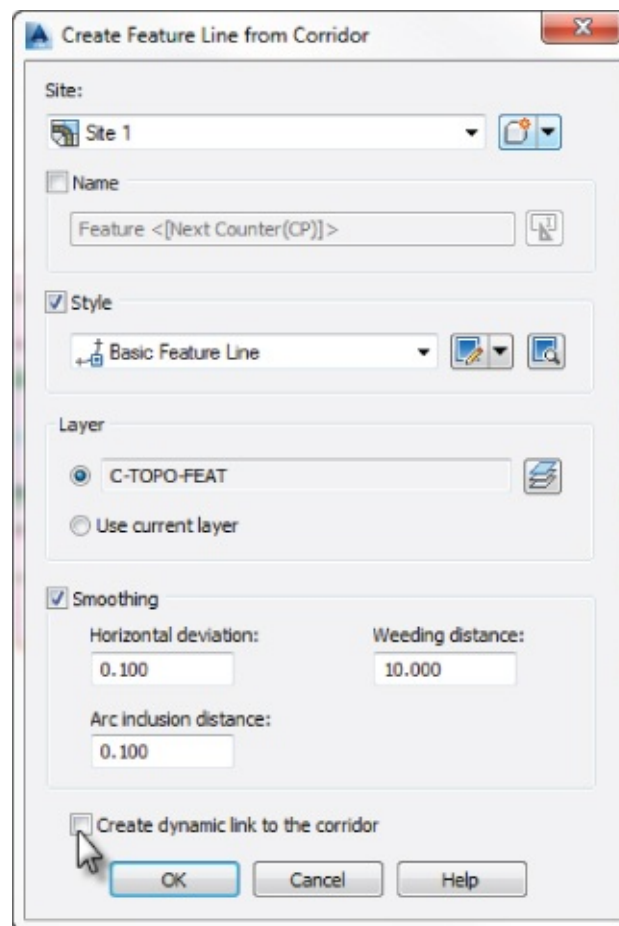

Figure 10.55 Creating a feature line from a corridor without a dynamic link to the corridor
6. In the Create Feature Line From Corridor dialog (Figure 10.55), clear the check box labeled Create Dynamic Link To The Corridor.